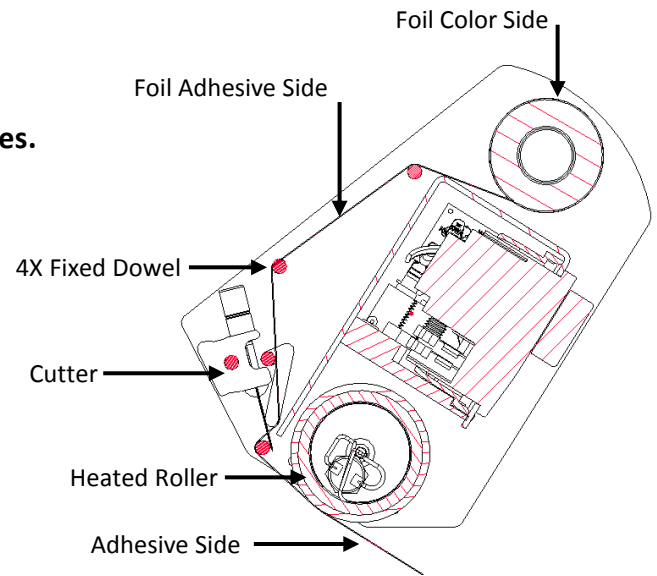

Figure 9
1. Place IFP in *Storage Position* shown in Figure 7. Position roll so adhesive side will be facing up as shown in Figure 9. Place one end of roll on two spindles by first placing one end of roll on spring loaded spindle. While pushing in spindle inserting roll onto other spindle and release. Make sure roll leaf is centered on spindles by spinning it and gently trying to dislodge roll from spindles.
3. Thread Leaf over first two *Fixed Dowels*, under *Floating Dowel*, and over fourth *Fixed Dowel* as shown in Figure 9. Pull about 4 inches or 10cm of Leaf Beyond the last dowel.